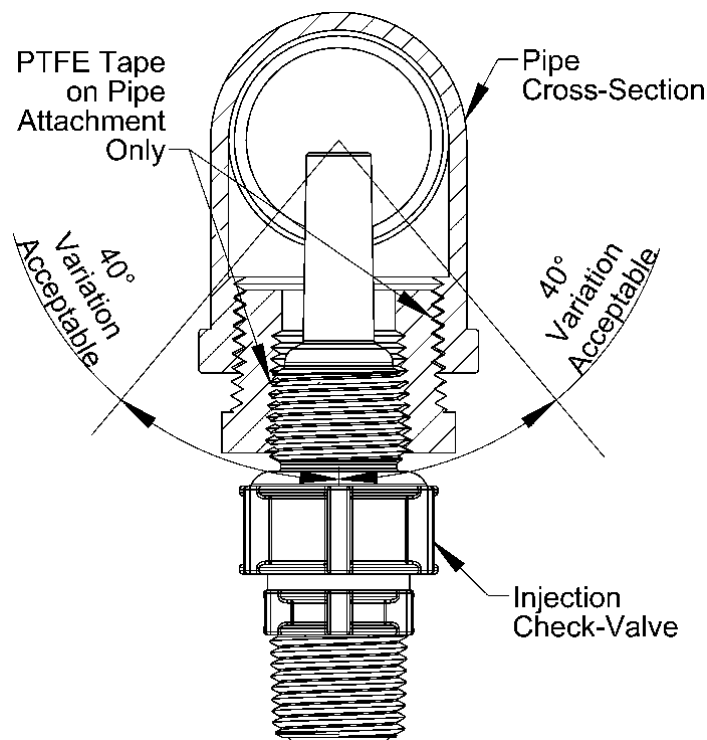

Figure 11: Typical Injection Check Valve Installation
2. When installing the injection check valve, be sure to position it so that the valve enters the bottom of your pipe in a vertical position. Variations left and right within 80° are acceptable (Figure 11).